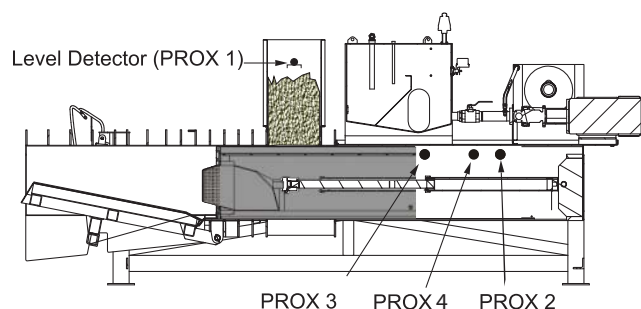

Figure 23. Product Piling On Top Of Plunger. Plunger In Home Position (fully extended).
1. **START-UP** SYSTEM CNTRL switch in START extends the plunger. AUTO PLUG switch in AUTO raises the restriction rail. Product falling through the in-feed chute falls onto the plunger top surface (see Figure 23).
NOTE: Any time the system is stopped with the **EMERG STOP** or the **SYSTEM CNTRL Switch**, when re-started the plunger will return to home position (see Figure 23).